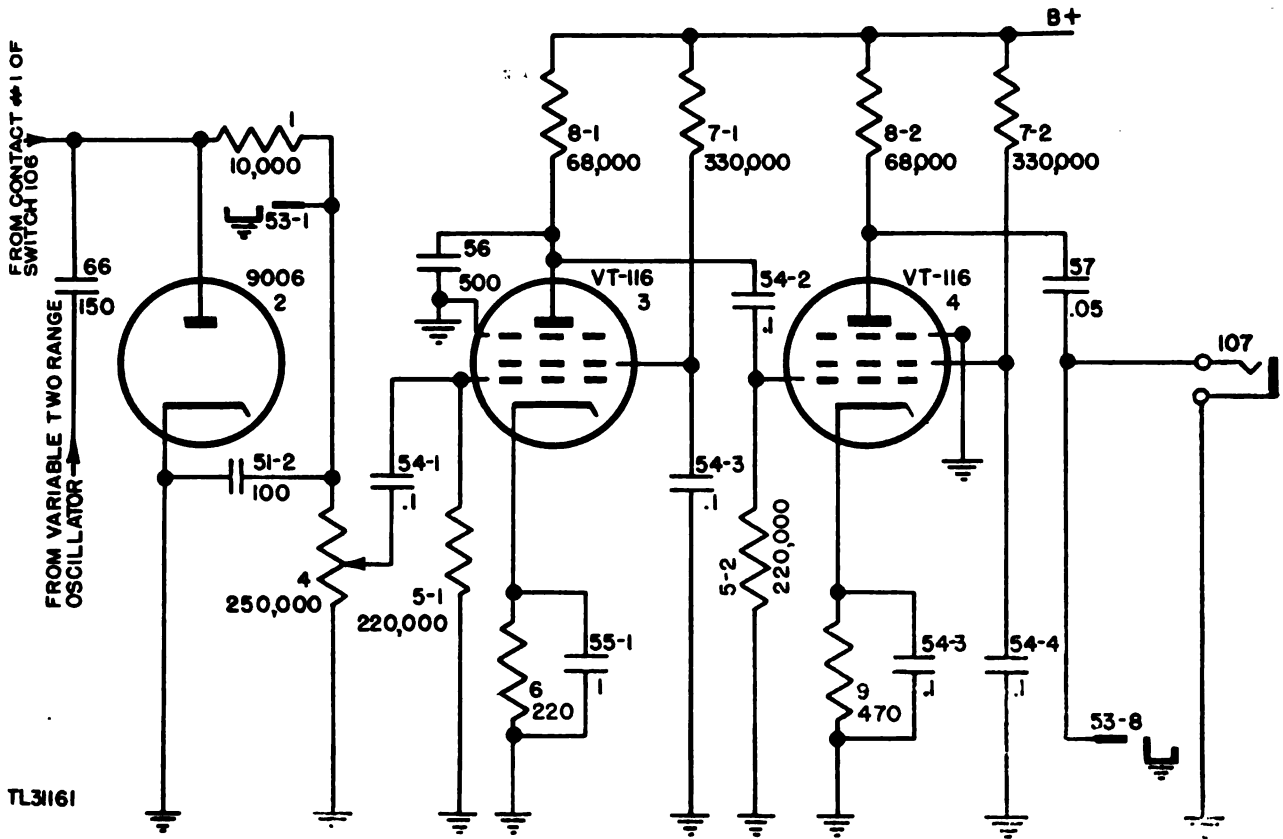

Figure 92. Signal generator, detector and amplifier, partial schematic.
*a.* The input signal to the diode detector is supplied from either the variable two-range oscillator and the crystal oscillator or the antenna and the variable two-range oscillator, depending upon the position of the CRYSTAL-TEST switch. (See fig. 92.) The output from the detector, which is a mixture of the two r-f input signals, appears across load resistor 1. Capacitors 51-2 and 53-1 form the r-f return circuit. Spark plate 53-1 is shunted across the output to prevent r-f leakage.